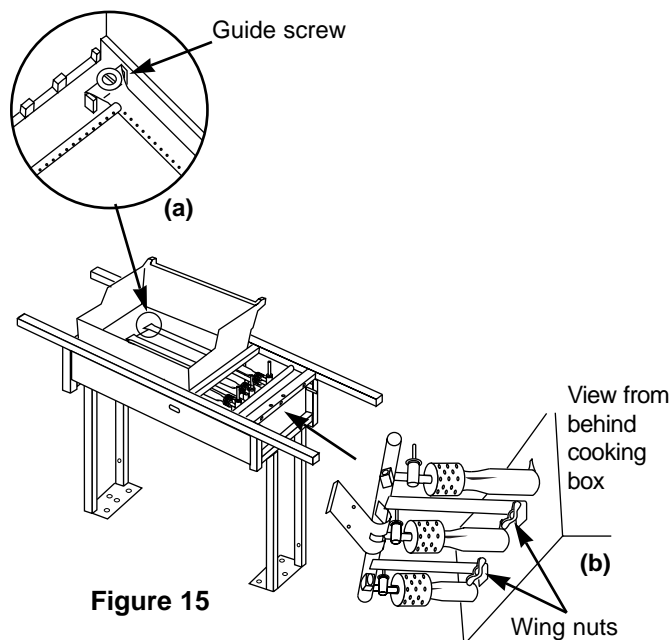

Figure 15
- a) Are the ends of the burners under the washers at the left rear and left front of the cooking box? The screws are only guides. Do not tighten. Figure 15 (a).
- b) Are the wing nuts under the burner assembly hand tight? Do not tighten with pliers. Figure 15 (b).